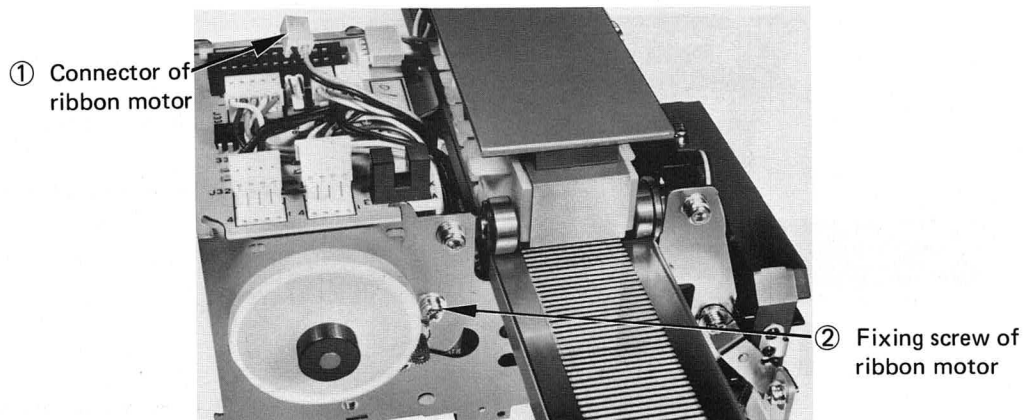

Fig. 5.17
Step 2. Remove the cable holder from the carriage circuit board, and disconnect connector ① from the ribbon motor. (Fig. 5.17)
Step 3. Remove the two fixing screw ② and take off the ribbon motor. (Fig. 5.17)